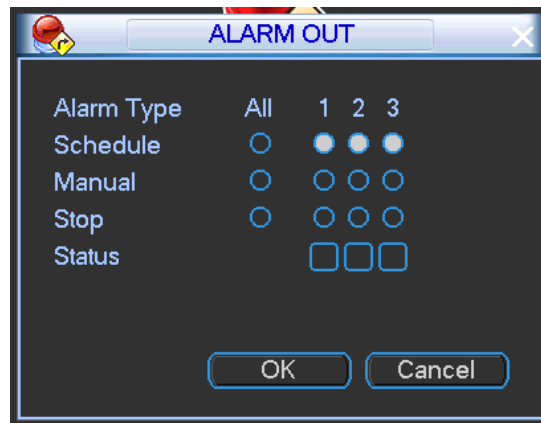

Figure 4-83
Step 1 From main menu->Setting->Event->Alarm output, Enter alarm output interface. See Figure 4-83.